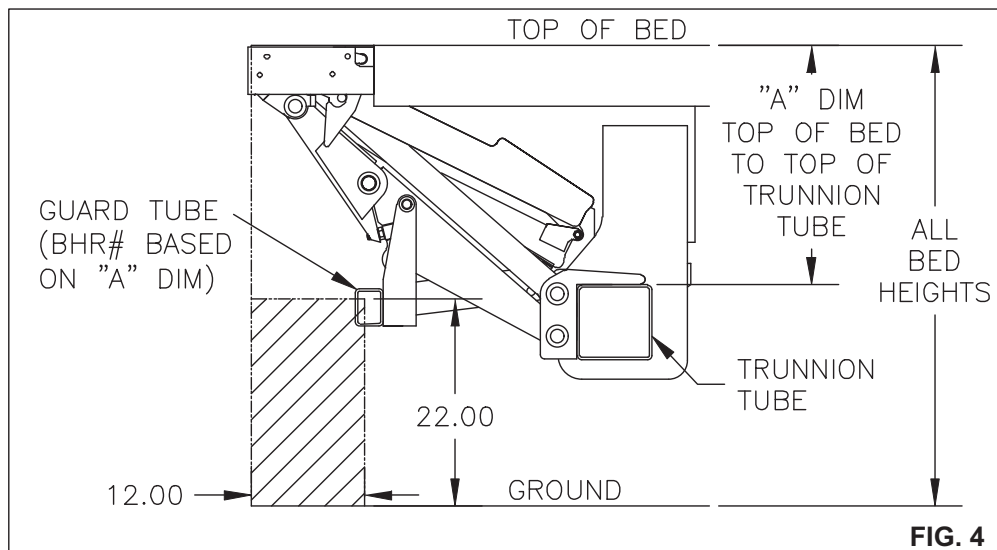

FIG. 4
- STEP 1. Determine the BHR# from chart below, based on "A" dimension used to locate the trunnion tube during LRST40 liftgate install. See figure 4.
STEP 9. Check to make sure a portion of the guard tube is within the rectangular boundary as shown in figure 4.